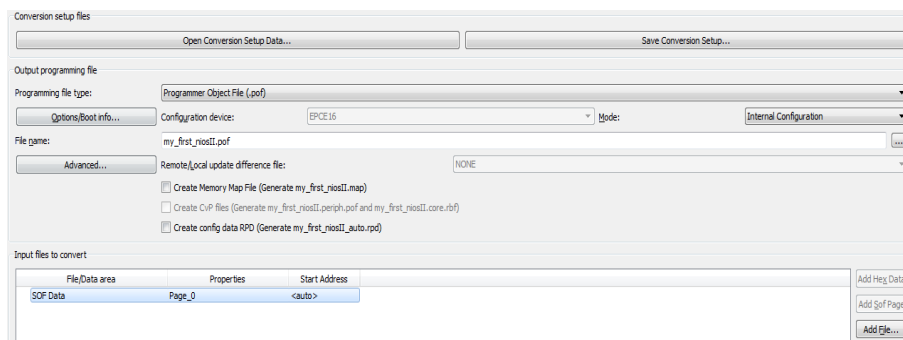

Figure 8-12 Convert File Window Setting
- Open the convert programming file window in Quartus II and set the window as shown in **Figure 8-12**.